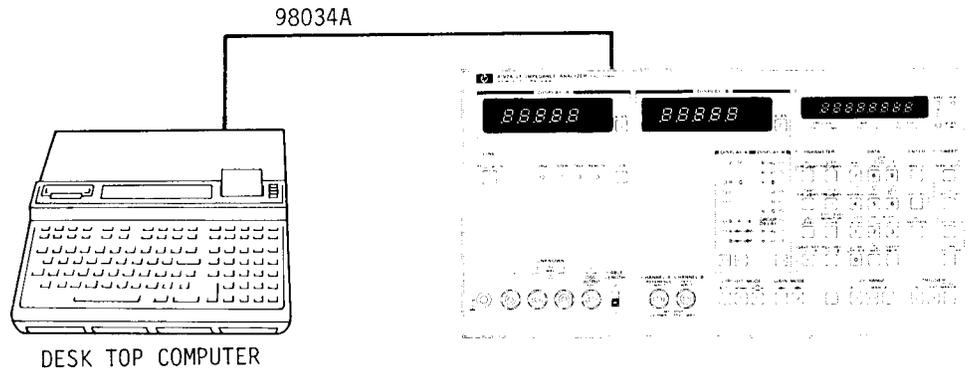

Figure 4-12. HP-IB Interface Test Setup.
- Connect the 98034A between the 9825A and 4192A as shown in Figure 4-12, and install the I/O ROM's in the ROM slots.